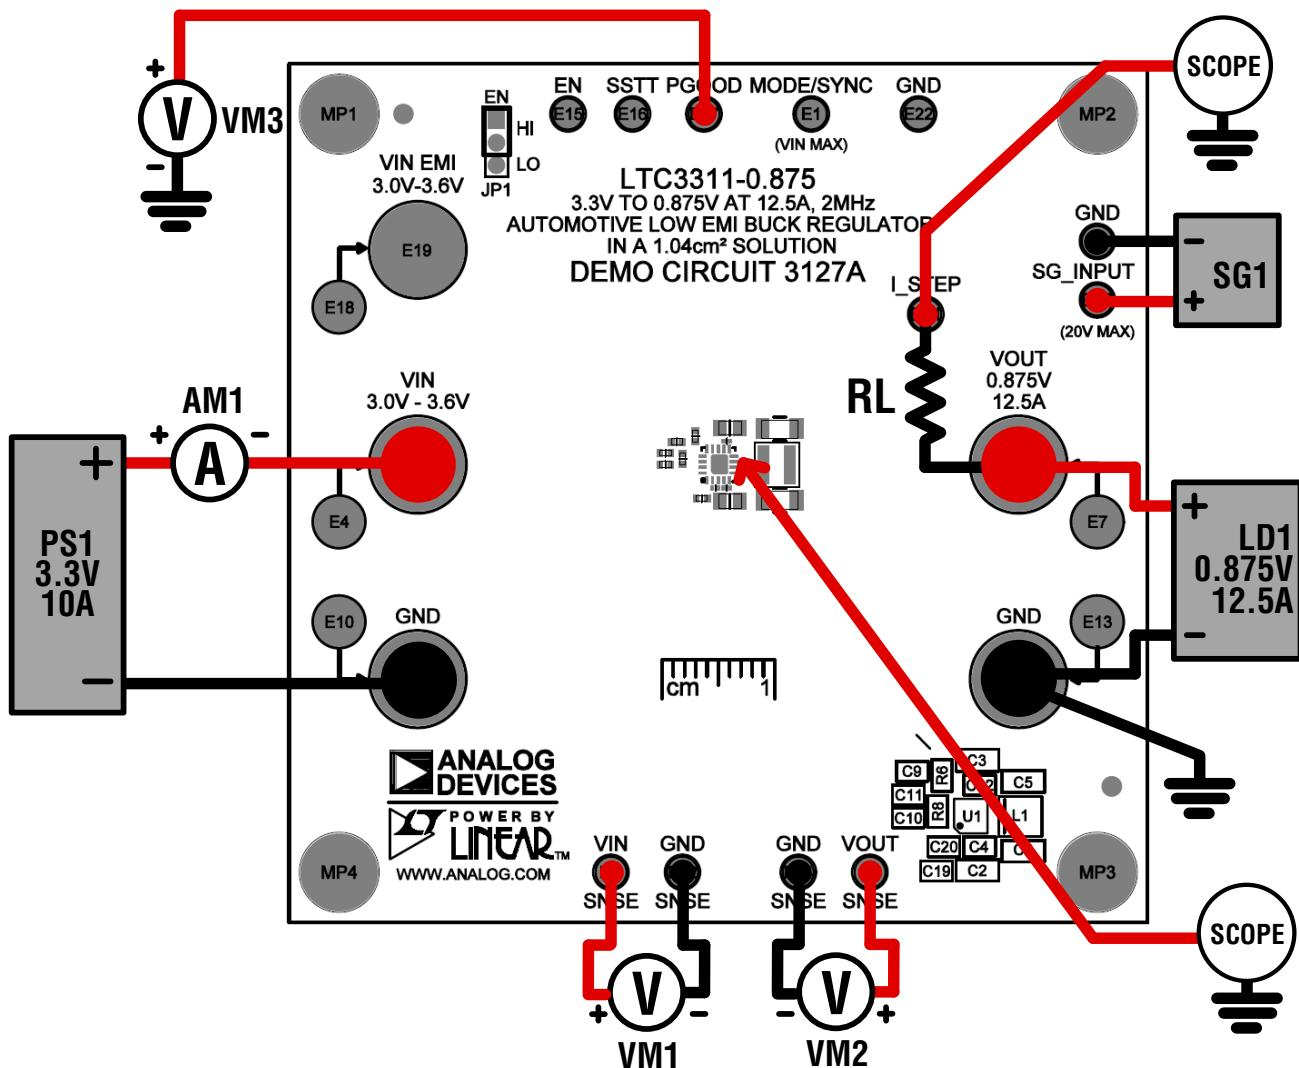

Figure 2. Test Setup for DC3127A Demo Board
Refer to Figure 2 for the proper measurement equipment setup and follow the procedure below:
NOTE: For accurate V_{IN} , V_{OUT} and efficiency measurements, measure V_{IN} at the VIN SNSE and GND SNSN turrets, and measure V_{OUT} at the VOUT SNSE and GND SNSN turrets as illustrated as VM1 and VM2 in Figure 2. When measuring the input or output ripple, care must be taken to avoid a long ground lead on the oscilloscope probe.
7. To test the transient response with a base load, add the desired resistor to produce a minimum load between V_{OUT} and I_{STEP} turrets (RL shown on Figure 2). Note that the total load resistance will be RL plus $R10$ (20mΩ). Adjust a signal generator with a 10ms period, 10% duty cycle and an amplitude from 1V to 2V to start.